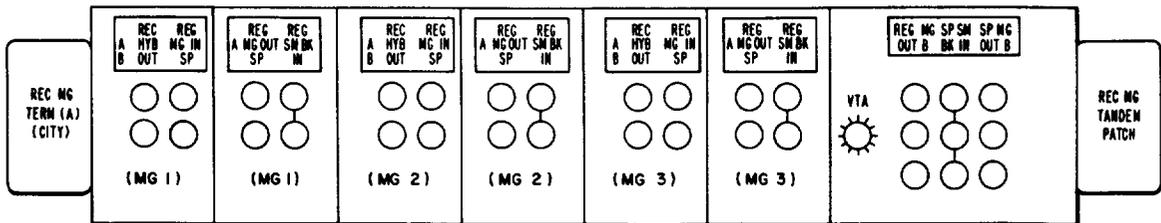
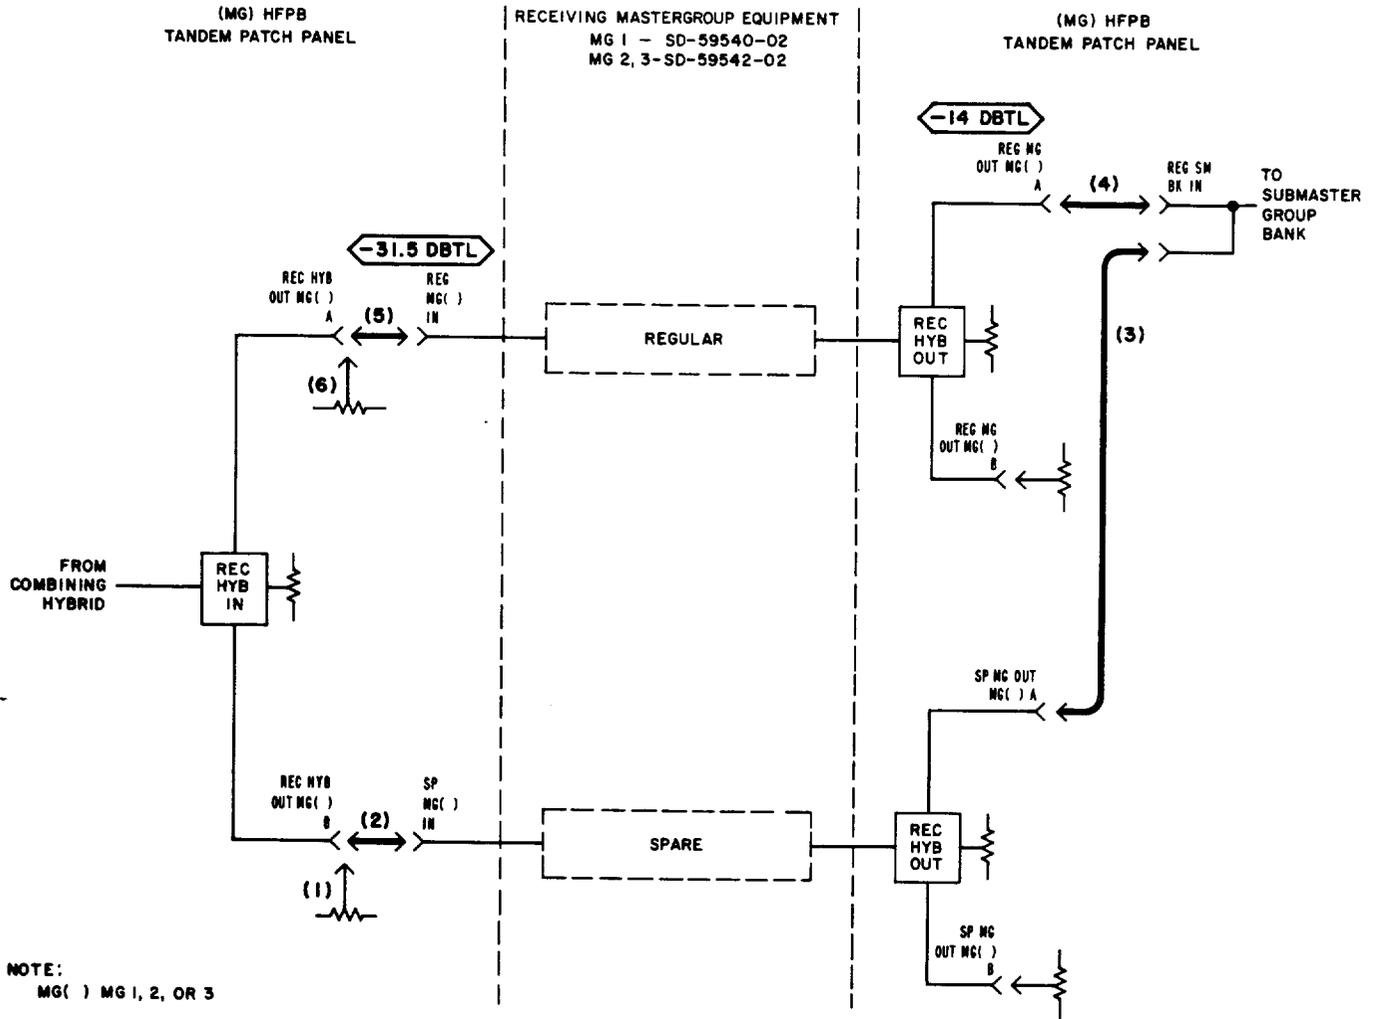
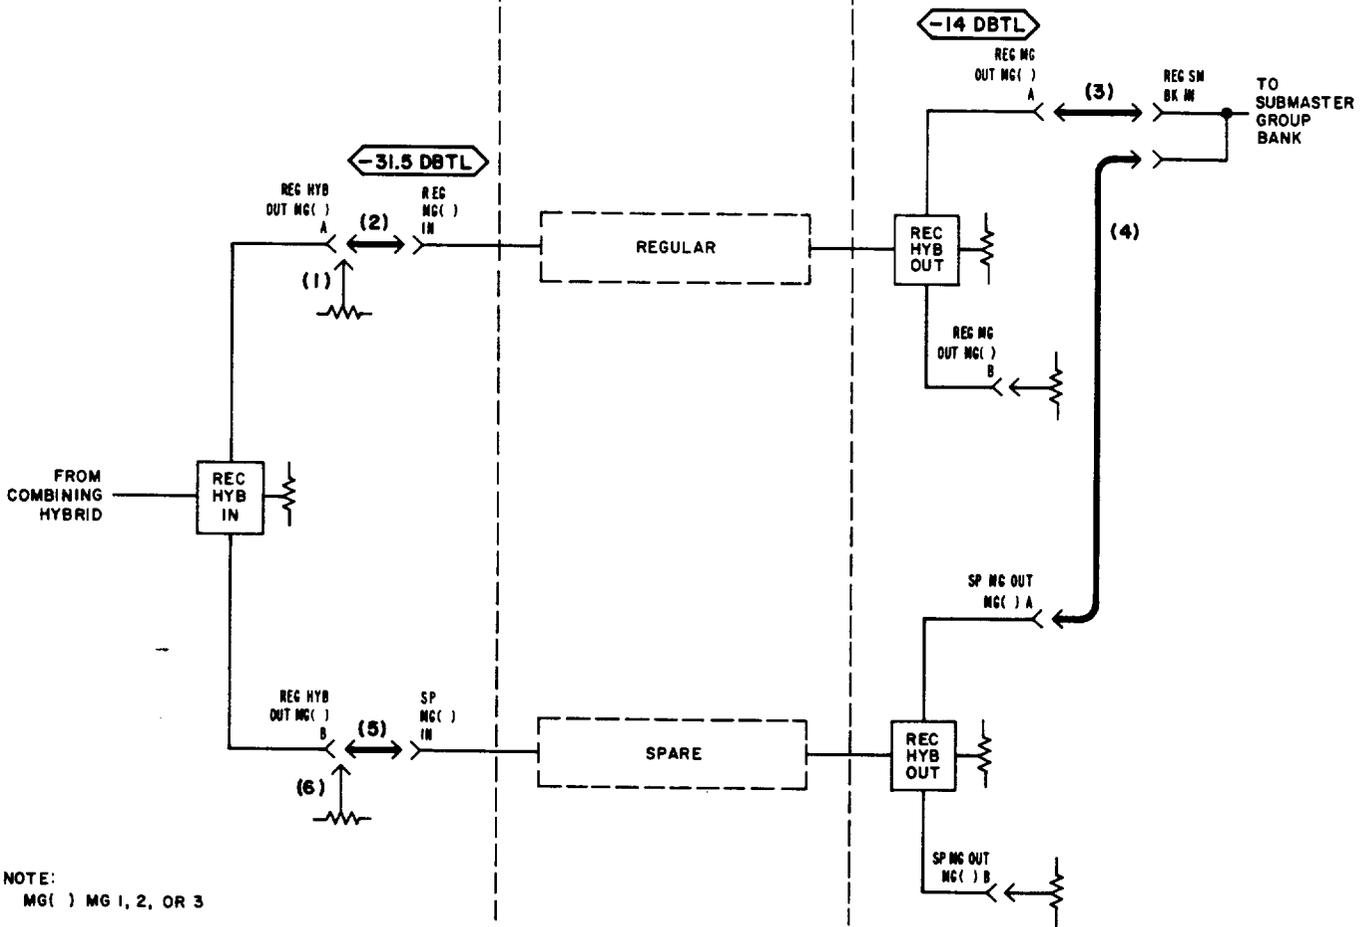

Fig. 1—Part of Tandem Patch Panel
Fig. 2—Removing Regular Equipment From Service—Patching Procedure
Fig. 3—Restoring Regular Equipment to Service—Patching Procedure
4	<p>Locate the jacks associated with the regular and spare equipment to be patched (Fig. 1). At the receiving tandem patch panel, perform the following steps:</p> <p>(a) Remove the 358B plug (75-ohm termination) from the REC HYB OUT MG( ) B jack [patch (1), Fig. 2].</p>
<p>(b) Insert a 372A plug (through connection) into the REC HYB OUT MG( ) B and the SP MG( ) IN jacks [patch (2), Fig. 2].</p>
<p>(c) Insert a 372A plug into the SP MG OUT MG( ) A and the multiple REG SM BK IN jacks [patch (3), Fig. 2]. Observe the RTE indication.</p>
<p>(d) Remove the 372A plug from the REG MG OUT MG( ) A and the multiple REG SM BK IN jacks [patch (4), Fig. 2].</p>
<p>(f) Remove the 372A plug from the REC HYB OUT MG( ) A and the REG MG( ) IN jacks [patch (5), Fig. 2].</p>
<p>(g) Insert a 358B plug into the REC HYB OUT MG( ) A jack [patch (6), Fig. 2].</p>
6	<p>Locate the jacks associated with the regular and spare equipment to be patched (Fig. 1). At the receiving tandem patch panel, perform the following steps:</p> <p>(a) Remove the 358B plug (75-ohm termination) from the REC HYB OUT MG( ) A jack [patch (1), Fig. 3].</p> <p>Note: Jack designations may vary between offices. The new designations (Table A) are used in this procedure.</p> <p>(b) Insert a 372A plug (through connection) into the REC HYB OUT MG( ) A and the REG MG( ) IN jacks [patch (2), Fig. 3].</p> <p>Note: If trunking was used, select appropriate trunking jacks.</p> <p>(c) Insert a 372A plug into the REG MG OUT MG( ) A and the multiple REG SM BK IN jacks [patch (3), Fig. 3]. Observe the RTE indication.</p> <p>Requirement: Approximately a 3-dB increase in power</p> <p>(d) Remove the 372A plug from the SP MG OUT MG( ) A and the multiple REG SM BK IN jacks [patch (4), Fig. 3].</p> <p>(e) Observe the RTE indication.</p> <p>Requirement: -48 dBm (nominal pilot level)</p> <p>(f) Remove the 372A plug from the REC HYB OUT MG( ) B and the SP MG( ) IN jacks [patch (5), Fig. 3].</p> <p>(g) Insert a 358B plug into the REC HYB OUT MG( ) B jack [patch (6), Fig. 3].</p>